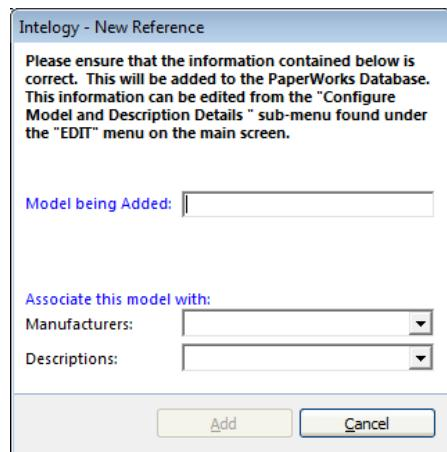

Figure 3.9 - New Reference
2. **Press** the ‘Add’ button. This displays the ‘New Reference’ screen as seen in figure 3.9 New Reference.